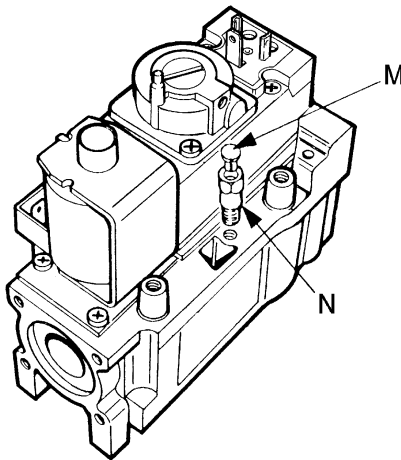

Fig. 10
- remove from the body valve gas the plastic protection cover "M" (fig. 10)